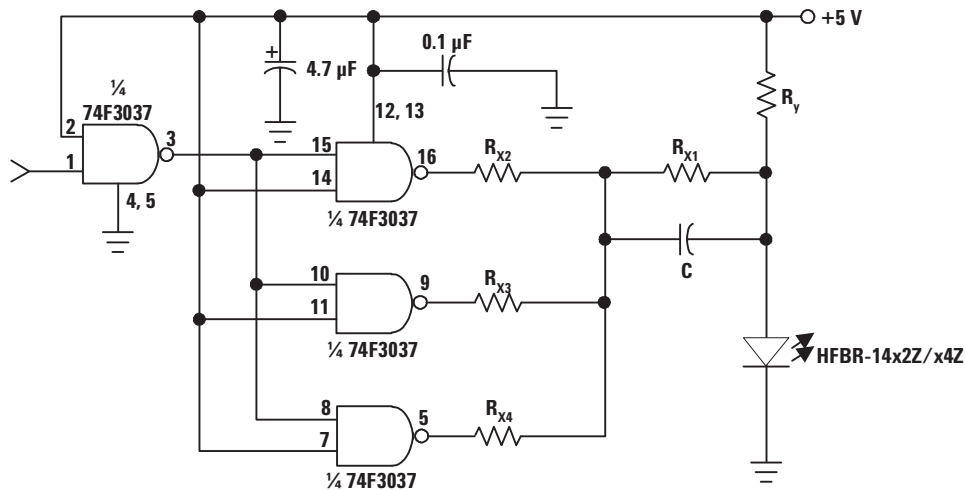

Figure 11. Recommended Drive Circuit.
- Pre-bias is recommended if signal rate $> 10\text{MBd}$, see recommended drive circuit in Figure 11.
The circuit used to supply current to the LED transmitter can significantly influence the optical switching characteristics of the LED. The optical rise/fall times and propagation delays can be improved by using the appropriate circuit techniques. The LED drive circuit shown in Figure 11 uses frequency compensation to reduce the typical rise/fall times of the LED and a small pre-bias voltage to minimize propagation delay differences that cause pulse-width distortion. The circuit will typically produce rise/fall times of 3 ns, and a total jitter including pulse-width dis-